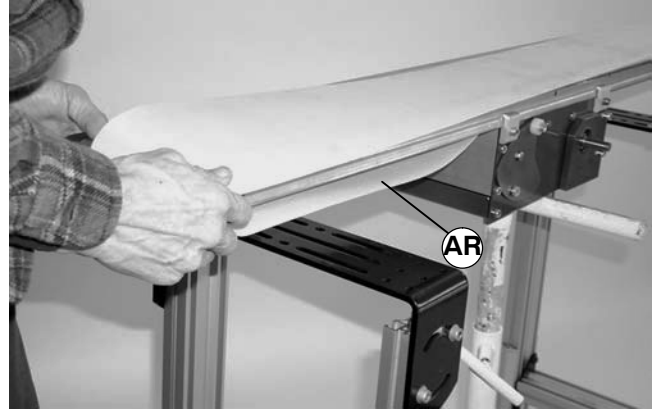

Figure 29
14. Remove conveyor belt (AR of Figure 29) from conveyor end.
8. Install conveyor belt (AR of Figure 29) on conveyor end.